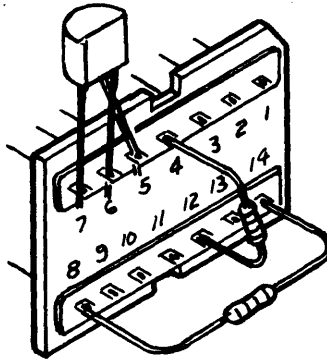

Figure 3-10
2. Remove the 1488 in location 4A and replace it with the Current Loop circuit built on a 14-pin header. This circuit is shown in Figure 3-10 and is constructed as follows:
- a. Connect a 2N3904 transistor to the 14-pin header with the emitter (E) lead connected to pin 7, the base (B) lead connected to pin 5 and the collector (C) lead connected to pin 6.